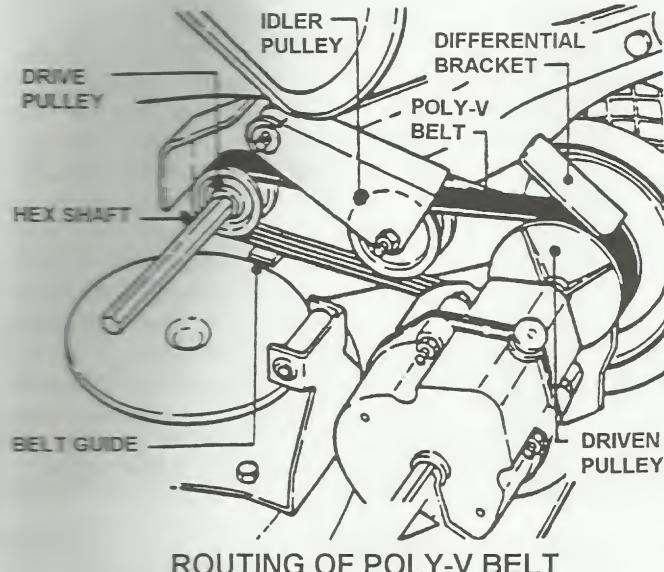

FIGURE 4.19
2. Note the routing of the old belt around the three pulleys before removing it. See Figure 4.19.
5. Twist belt sideways and pull it upward between the differential bracket and drive pulley and then down into the pulley groove. Make sure the Poly-V Belt is above belt guide. See Figure 4.19.